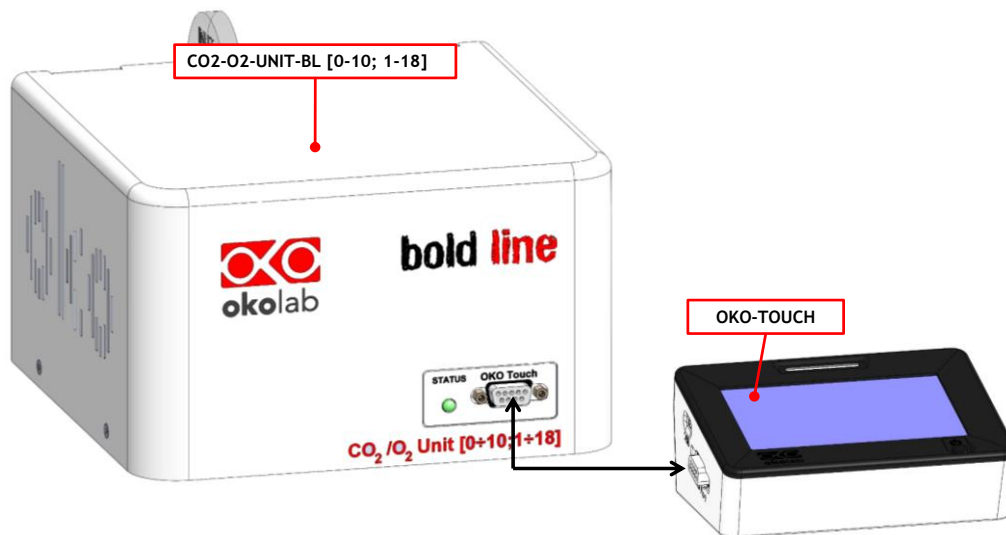

Figure 15. Oko Touch Connection
5. Connect the touch screen interface OKO-TOUCH to CO2-O2-UNIT-BL [0-10; 1-18] with the RS232 serial cable as illustrated in Figure 15.